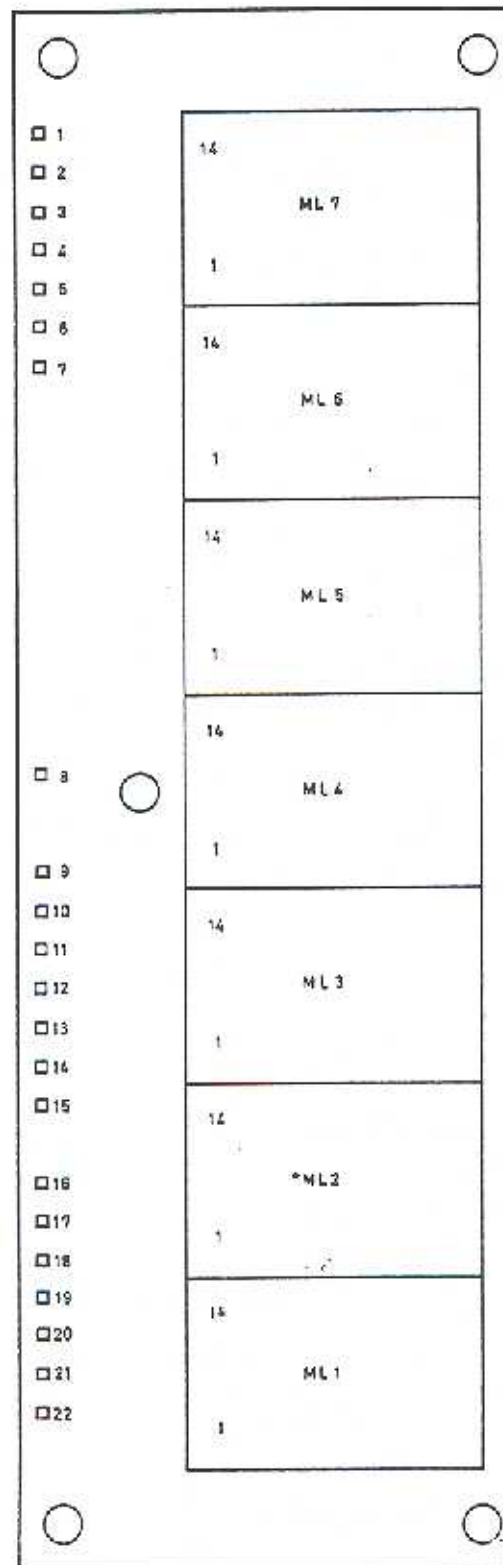

Fig 3 Display—component layout
3. Circuit diagrams of Synthesiser Boards 1 and 2 are given in Figs.3 and 4 respectively. As far as is possible the circuits of the two boards are described separately to reduce the amount of cross-reference the reader has to make between Figures 3 and 4.